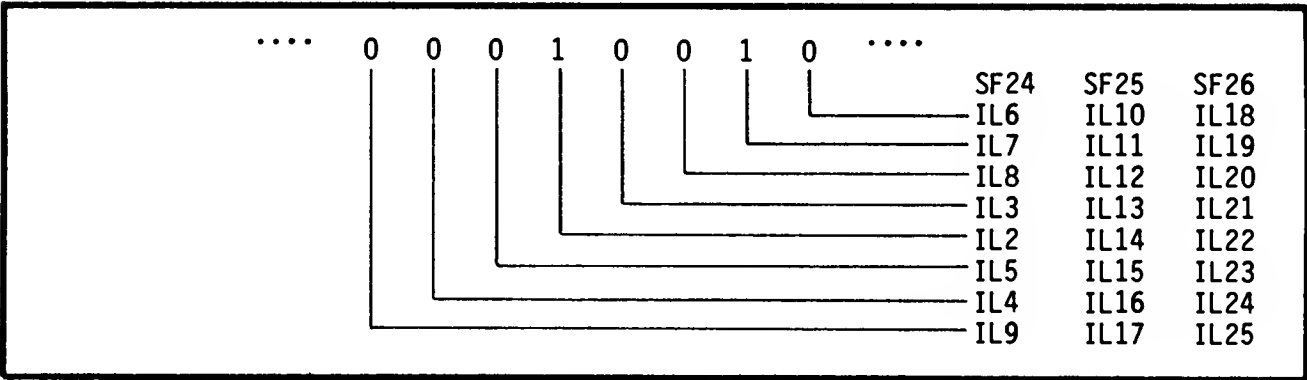

Fig 7.1 Interrupt Buffer Display
7.4.3.1 Special functions 24, 25 and 26 display the contents of the buffers for interrupt lines IL2 to IL25 in the frequency display. The appearance of the display is as shown in Fig 7.1. Note that the occurrence of an interrupt is represented by a '1' in the display, regardless of the active level of the related interrupt line. The servicing of interrupts is inhibited while these special functions are active, so that the buffers will not be cleared while the contents are being examined.